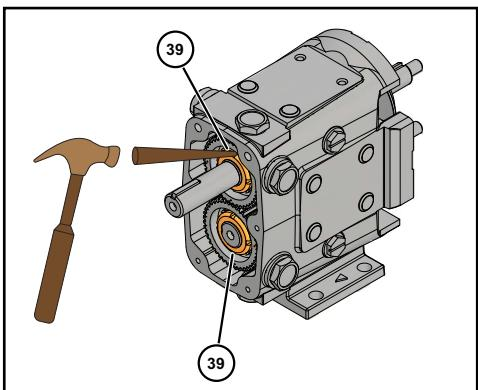

**Figure 39 - Remove Gear Case Cover**
1. Remove the oil drain plug (Figure 39, item 24D); drain the oil.
2. Remove the cap screws from the gear case (item 33A).
3. Pull the cover (item 4) off the shaft extension. If the cover sticks, use a soft hammer to loosen it.
4. Remove the silicone sealant (item 25) from the gear case and cover.
5. Using an arbor press, remove the oil seal (item 12) from the cover. Discard the used oil seal.